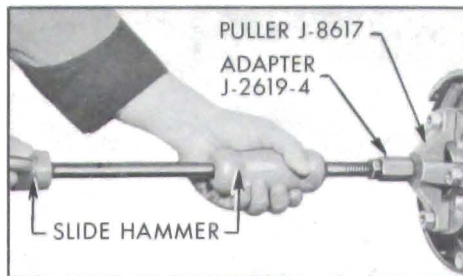

Figure 6-5—Removing Rear Axle Shaft
4. Pull out axle shaft assemblies using Puller J-8617 and Adapter J-2619-4 with a slide hammer. See Figure 6-5.